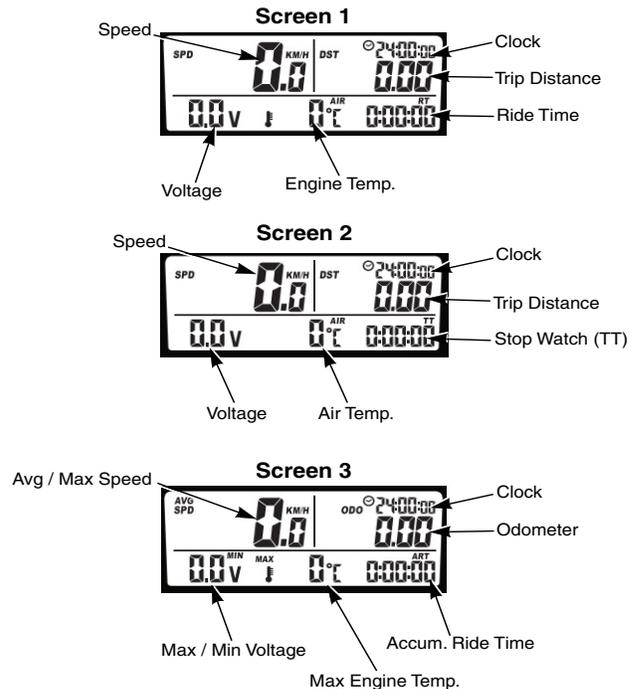

Figure 4-1. Digital Display
The Digital Display is standard equipment on all Turf Storm sprayer/spreader machines. The display has three (3) different screen options to chose from. For more information on the different screen displays, refer to the display's owners manual supplied with this product. See Figure 4-1. If additional information or service is needed, contact your Scag Power Equipment Dealer.
1. Speed Indicator (Figure 4-1). Indicates the current speed of the machine. Refer to Sections 5.7 & 5.8 for calibration procedure.
2. Clock Indicator (Figure 4-1). Indicates the current time.
3. Trip Distance Indicator (Figure 4-1). Indicates the distance traveled by the machine, can be used to calculate a test path during calibration.
4. Voltage Indicator (Figure 4-1). Indicates the current voltage of the machine.
5. Engine Temp. Indicator (Figure 4-1) Not Used. Indicates the current temperature of the engine.
6. Ride Time Indicator (Figure 4-1). Indicates the current operating time since the last trip data reset. Ride time only registers while the machine is moving.
7. Stop Watch Indicator (Figure 4-1). Indicates when the stop watch feature is in use, can be paused, stopped, and reset with a trip data reset.
8. Air Temp. Indicator (Figure 4-1). Indicates current ambient temperature.
9. Odometer Indicator (Figure 4-1). Indicates the total distance the machine has driven.
10. Accum. Ride Time Indicator (Figure 4-1). Indicates the total amount of time the machine has been operated.
11. Max / Min Voltage Indicator (Figure 4-1). Indicates the minimum and maximum voltage of the machine. This feature rotates between maximum and minimum voltage every 2 seconds.
12. Avg / Max Speed Indicator (Figure 4-1). Indicates the average and maximum speed of the machine. This feature rotates between average and maximum speed every 2 seconds.
11. Hourmeter (Figure 4-1). Indicates the number of hours the engine has been operated. It operates whenever the engine is running. Has preset maintenance reminders for engine and hydraulic system oil changes. Will start flashing scheduled maintenance 2 hours before preset time and continue flashing until 2 hours after. Automatically resets.
25. Digital Display (Figure 4-1). Located on the control panel, the display allows the operator to see various functions of the machine including ground speed, hours, distance, and many other important metrics for the machine. See Section 4.1